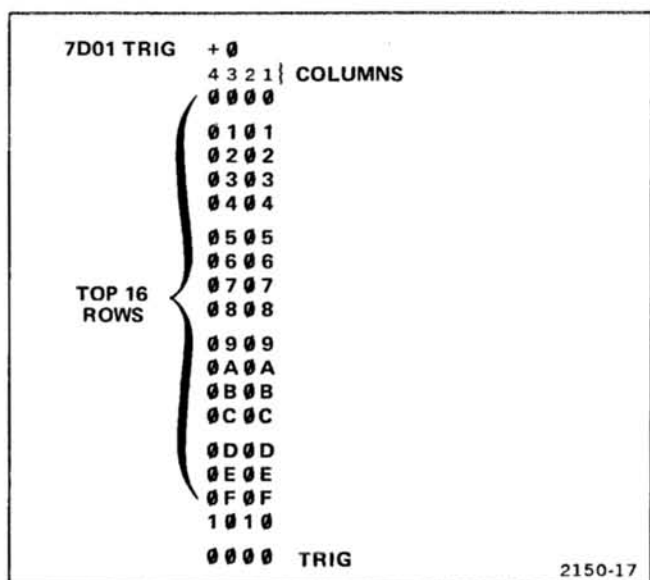

Figure 5-3. Hexadecimal State Table display.
- d. Check that the top 16 rows of columns 1 and 3 display 0 through F (see Fig. 5-3).